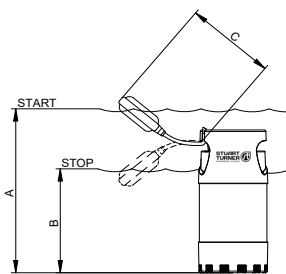

Fig. 5 Min. Float Switch Movement
- 2.22 If modification of the level setting is required refer to Figures 5 and 6 and the following chart.
Note: It is not possible to empty the sump completely, a minimum depth must remain (Figs. 5 & 6).